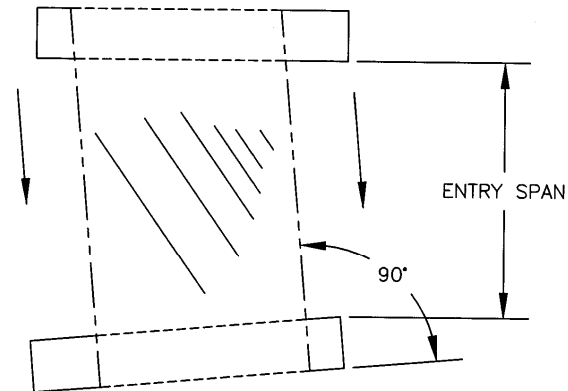

FIGURE 11
A web will seek to align itself perpendicular to a roll, in its entry span to that roll (see figure 11).
- If idler rolls and/or driven rolls are not parallel to each other (figure 11), wrinkles will occur. These occurrences are again introduced because of the web handling principal, that a web will seek to align itself perpendicular to a roll in the entry span to that roll. As the web is seeking this right angle it will move or bend out of its normal running plane. This will create tension to variations across the web, tensile stress in high tension area and lateral compression in the low tension area.